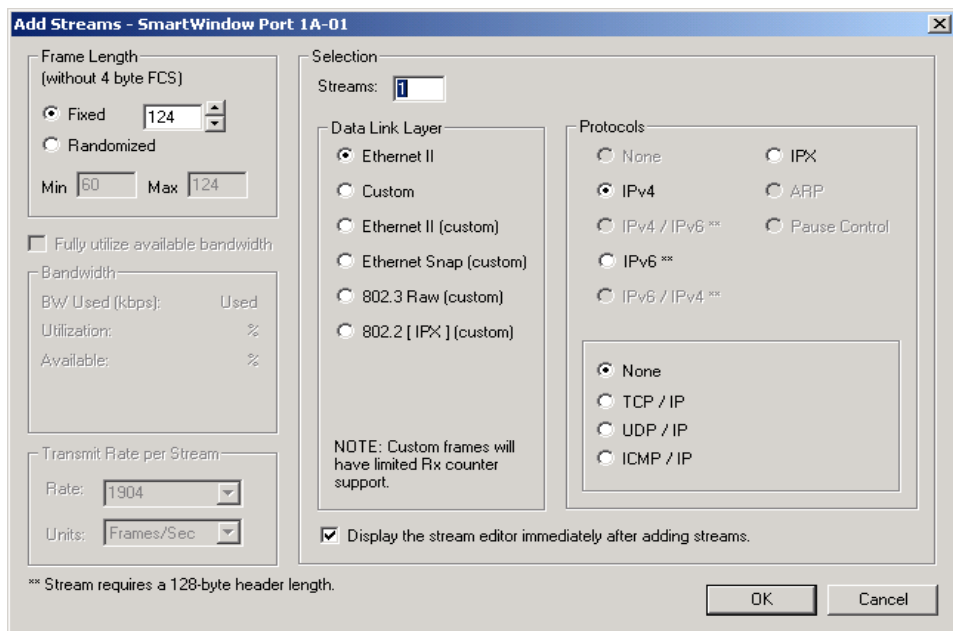

Figure 7-13. Add StreamsWindow
- 1 Click the **Add** button in the *Selected Streams* pane of the *Streams Setup* window. The dialog box in *Figure 7-13* appears.